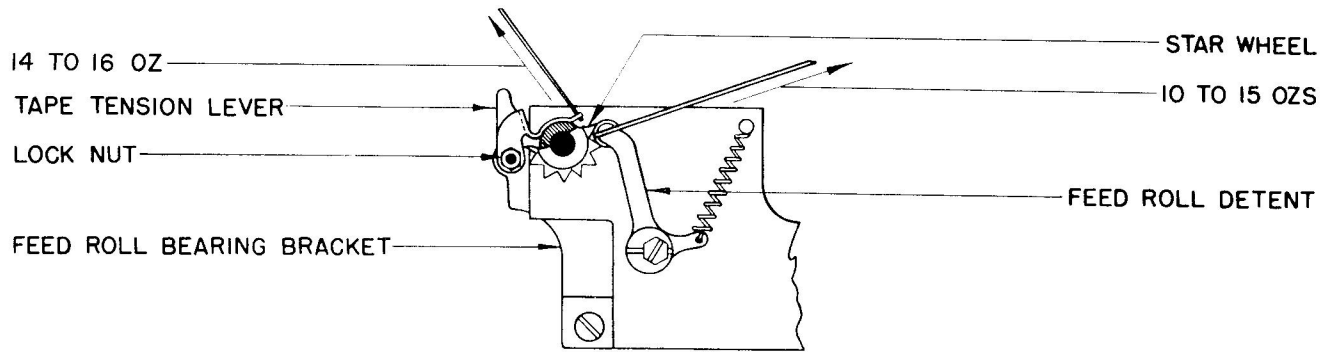

FIGURE 8
e. TAPE TENSION LEVER SPRING TENSION (FIGURE 8)
h. FEED ROLL DETENT LEVER SPRING TENSION (FIGURE 8)